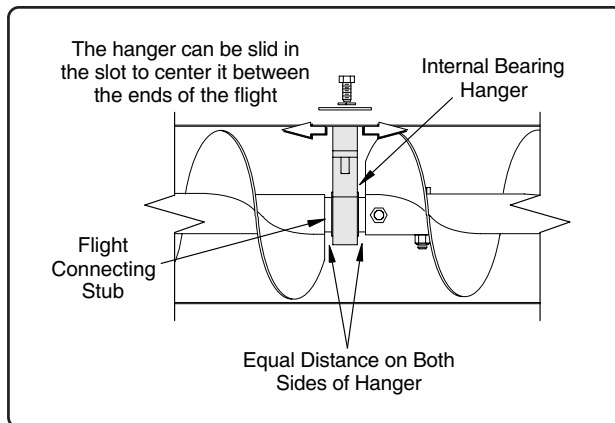

Fig. 45
4. Position the bearing hanger so the mounting hole is visible through the slot in the housing. Adjust the hanger so it is centered between the ends of the flights. (See Fig. 45). This can be done by sliding the hanger back and forth through the slot to determine approximate center (there should be equal distance between each end of the flight and bearing).